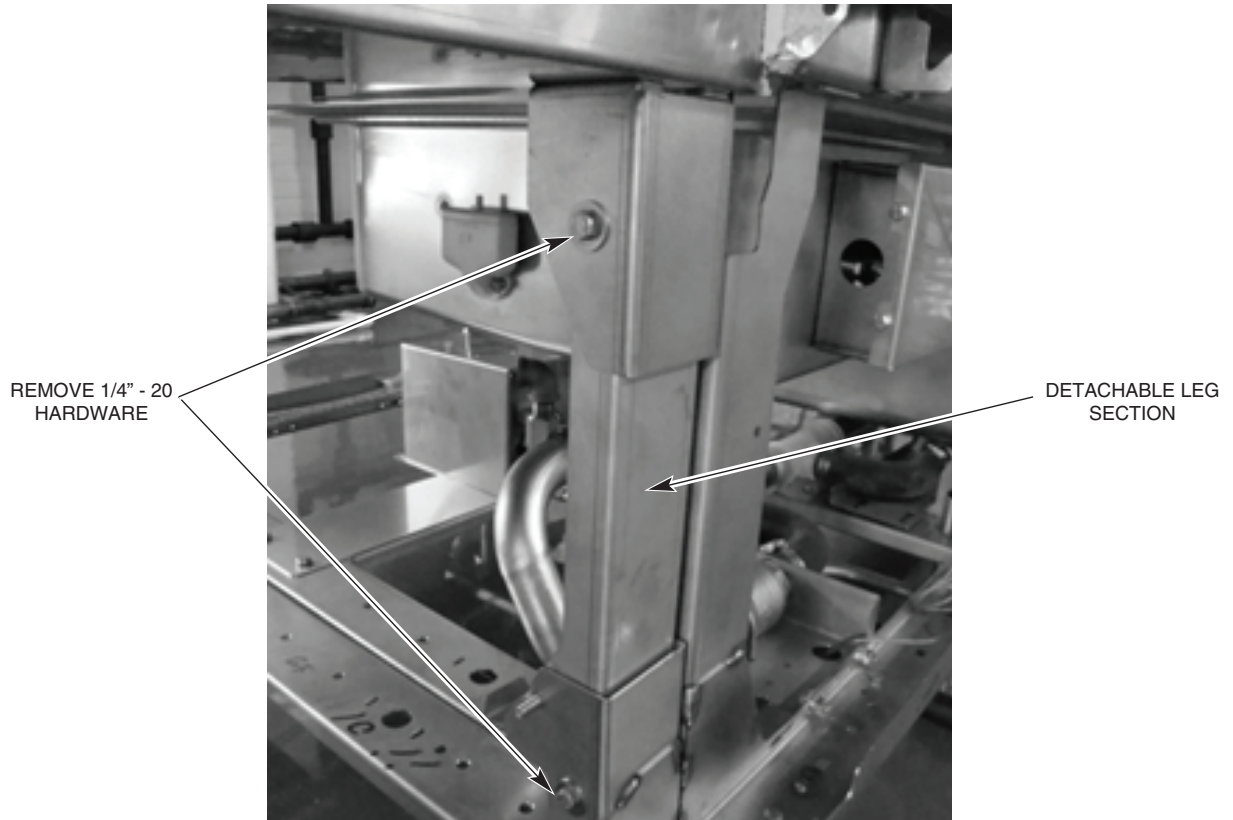

Fig. 7
1. For ease of control box installation, remove the detachable leg section on the front leg of the unload section where the control box will be mounted by removing the upper and lower $\frac{1}{4}$ -20 hardware. This will allow the wires, which are preinstalled in the control box, to pass by the leg assembly freely (Fig. 7).